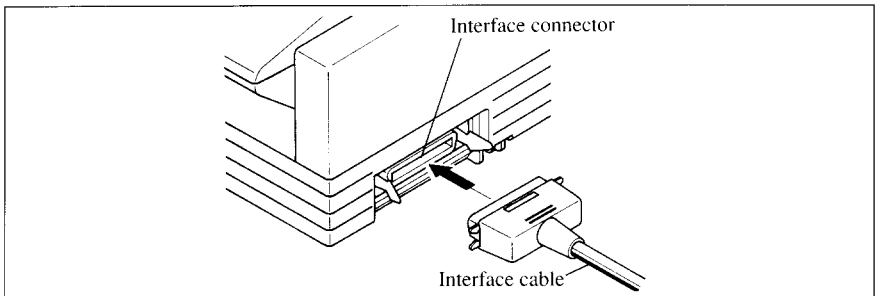

Figure 2-12. Connecting the interface cable.
2. Connect the interface cable to the printer as shown in Figure 2-12. Make sure that you press the plug into the interface connector.